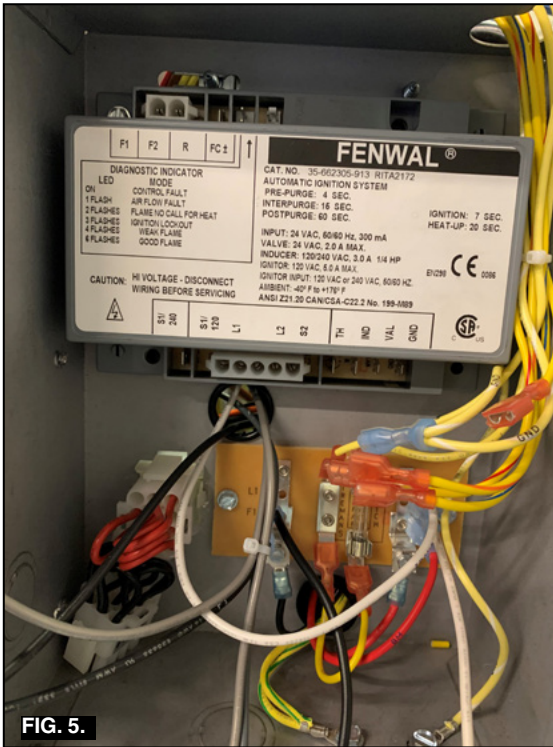

FIG. 5.
1. Disconnect all connector plugs and wires from the legacy ICM. Remove the screws from the legacy ICM. Remove ICM from the heater. (Fig 5.)
2. Install the ICM onto the heater junction box compartment. Secure the unit with the two (2) screws.